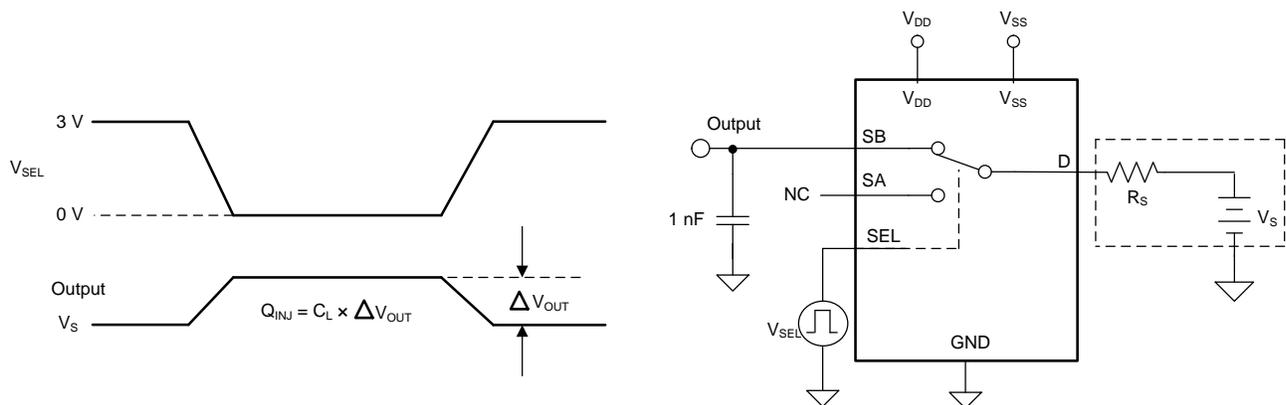

图 22. Charge-Injection Measurement Setup
The TMUX6136 have a simple transmission-gate topology. Any mismatch in capacitance between the NMOS and PMOS transistors results in a charge injected into the drain or source during the falling or rising edge of the gate signal. The amount of charge injected into the source of the device is known as charge injection, and is denoted by the symbol Q_{INJ} . 图 22 shows the setup used to measure charge injection from drain (D) to source (Sx).